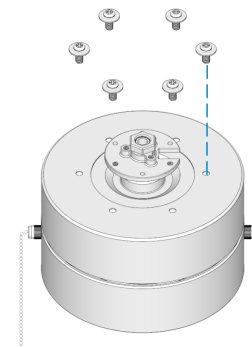

Fig. 1.1
1.1 Remove the blade screws from the motor head. Align two blade holes with the corresponding screw holes on the motor head, and secure the blades using the blade screws, as illustrated in Fig. 1.1.